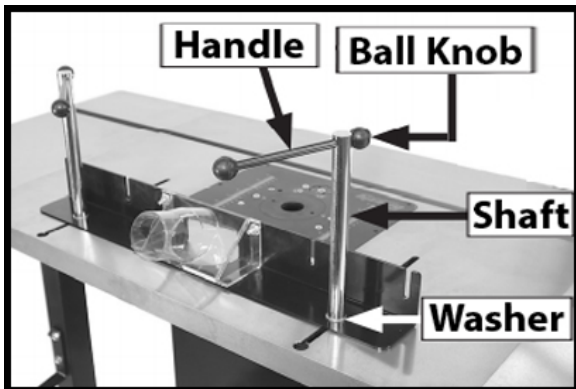

Figure 25
13. Assemble the fence locks as in (Fig.25) by removing one ball knob on each handle. Slide it through the hole at the top of the shaft then re-install the ball knobs.
14. Install the fence lock and 5/16 flat washers on each of the T-Bolts installed in step 12. (See Fig.25).